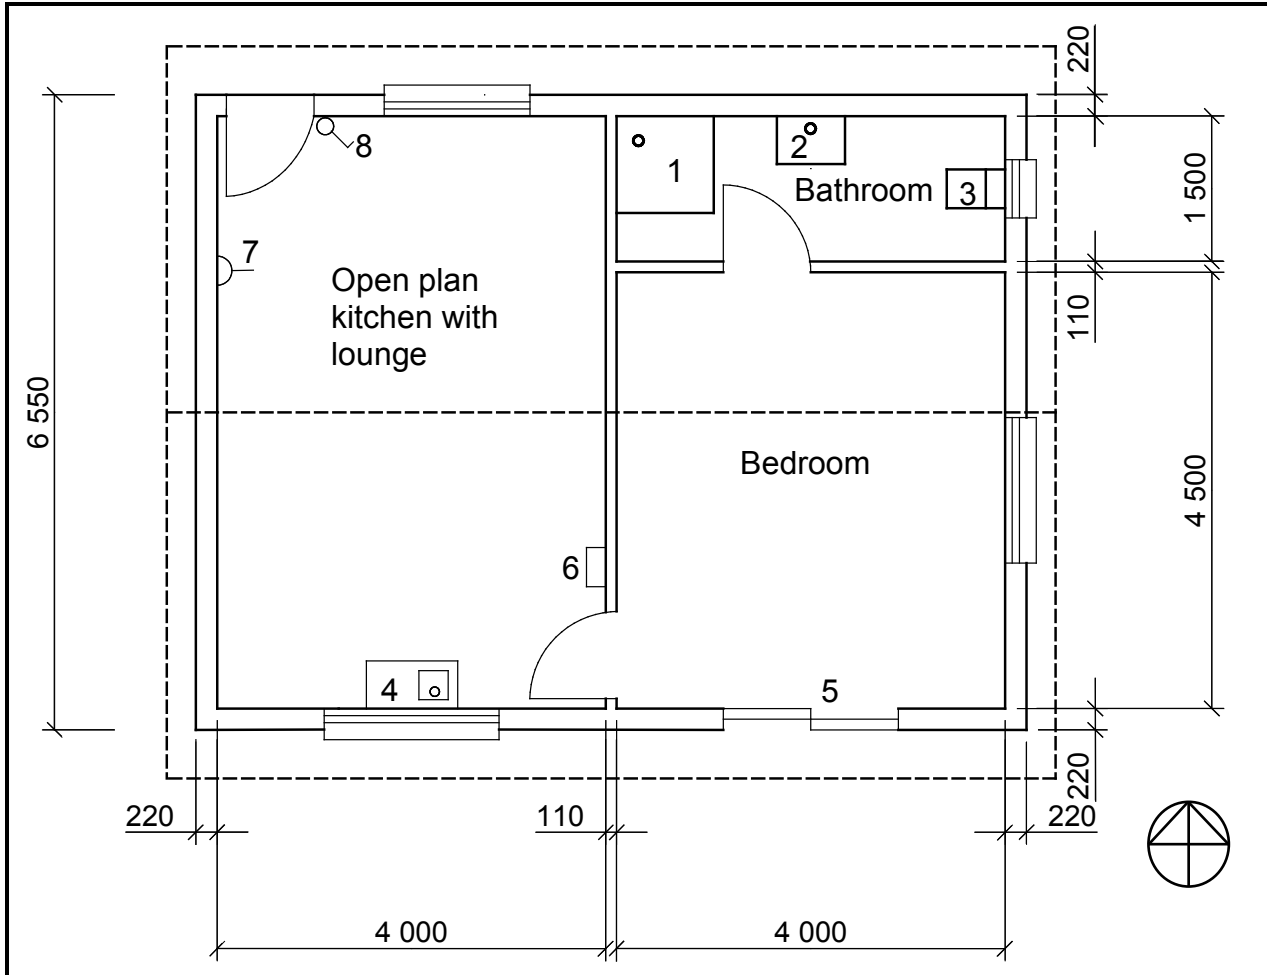

FIGURE 6.1
6.1 FIGURE 6.1 below illustrates the floor plan of a one-bedroom house. Study the drawing and complete the table on ANSWER SHEET 6.1.